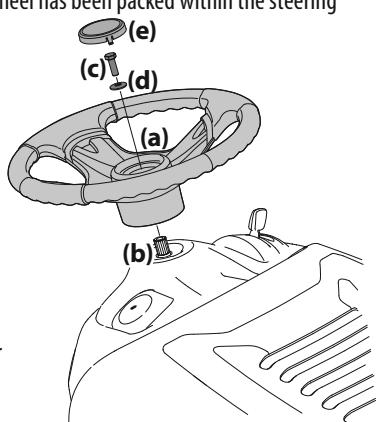

Figure 10
- With the front wheels of the tractor pointing straight forward, align the steering wheel (a) and place it onto the steering shaft (b). See Figure 10.